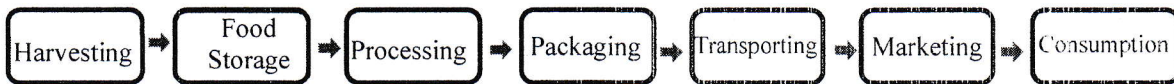

Figure 1
1. (A) Post harvest supply chain of a grain was given in the Figure 1.